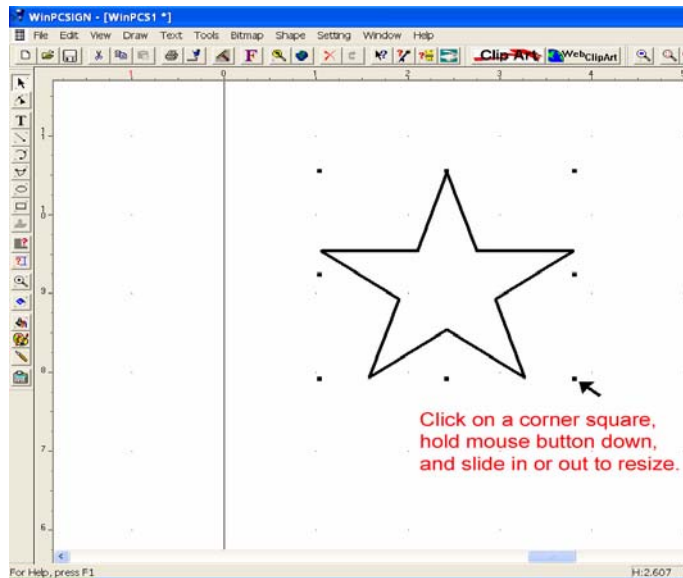

Figure 138
- 1 Select the image with the **Select Elements** tool. When you do, small black boxes appear around the image. See figure 138.